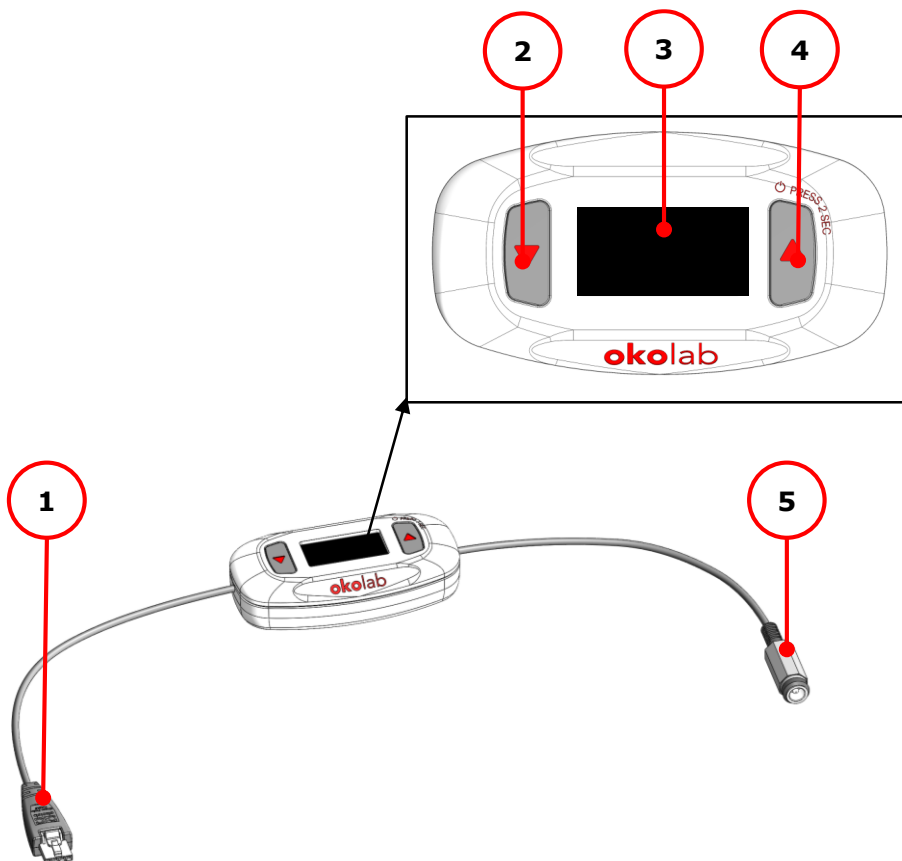

Figure 2. H401-T-PENNY – Equipment description.
A detailed description of H401-T-PENNY is provided in the following list, which refers to the pointers in Figure 2:
- DOWN button (see Figure 2 (2))
- UP button (see Figure 2 (4))
- 1 Connect the heating device to the Heating Device connector of H401-T-PENNY (see Figure 5 and Figure 2 (1)).
- 2 Connect the Power Supply to the 24 VDC Power connector (see Figure 5 and Figure 2 (5)).